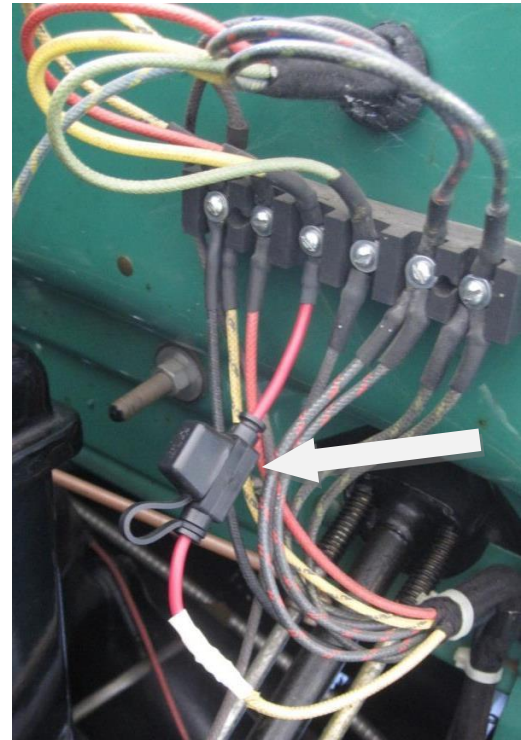
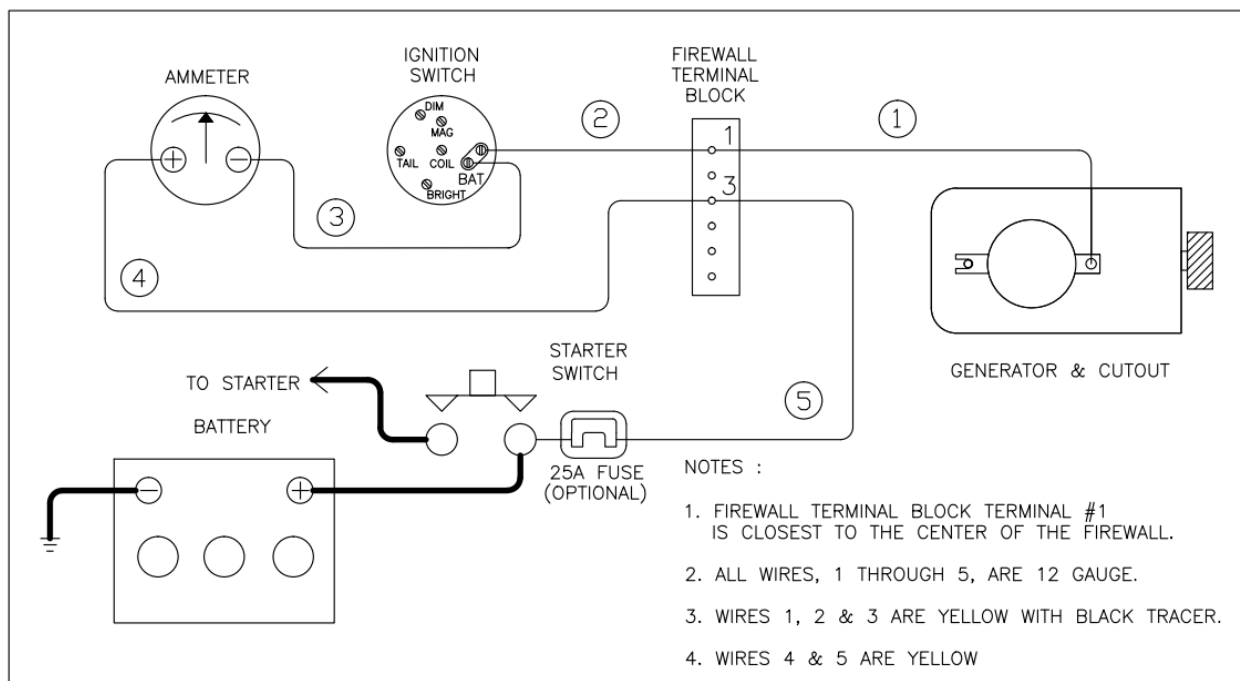

Figure 2. Typical Fuse Implementation
Figure 3. Battery Charging System Physical Wiring Diagram
The installation of a single 25 Amp fuse is highly recommended and will provide adequate safety protection for all the original circuits in a Model T. This fuse should be installed in series with the Yellow wire 5 (Figure 3) between the starter switch and the firewall terminal block terminal 3. You can use either a replaceable 25 Amp cartridge or ATC type fuse. Figure 2 shows a commonly available water proof ATC fuse holder installed in a Model T Ford.
Figure 3 is a simplified Battery Charging System physical Wiring diagram. There are five charging circuit wires numbered 1 to 5 and encircled. The actual wires do not have numbers on them. The proper color code for each of these 12 gauge wires is indicated in Notes 3 & 4. The Generator, cutout, firewall terminal block interconnecting points (terminals 1 and 3), rear of the ignition switch, Ammeter, starter switch and Battery are shown. The lamp loads are connected to the Bright, Dim and Tail terminals. The lamp loads are controlled by the light switch lever on the dashboard. The ignition load is applied when the key is in the BAT position. If a Battery horn is installed it is connected to terminal block terminal 1. In many cases you will find wire 3 is a 14 or 16 gauge wire. If this is the case it should be replaced with the correct 12 gauge wire.
If the needle shows no deflection in step 5 (remains centered at "0" amps) the Yellow wire #2 is probably wired to the (+) side of the Ammeter as opposed to the Bat terminal on the switch. Make sure wires #2, #3 and #4 are wired exactly as shown in Figure 3.
If these tests are not successful it may be necessary to trace the charge circuit wires (Figure 3 wires 1-5) from point to point. Table 1 is provided to aid this effort.
- It is common to find Figure 3, wire 2 from firewall terminal block terminal 1 wired directly to the Ammeter “-“(minus) terminal and not the ignition switch BAT terminal.
- There should be two wires (Figure 3, wires 2 and 3) on the ignition switch BAT terminal.
If you commonly work on Model T electrical problems you may want to consider making up a simple trouble shooting test Ammeter. Figure 4 shows one I made that uses 12 gauge wire, has insulated alligator clips and can be temporarily wired in series with the Yellow wire #5 in Figure 3 (similar to the fuse shown in Figure 2.) for obtaining accurate readings while trouble shooting electrical troubles. The hooks are for hanging it on the radiator support rod during use.